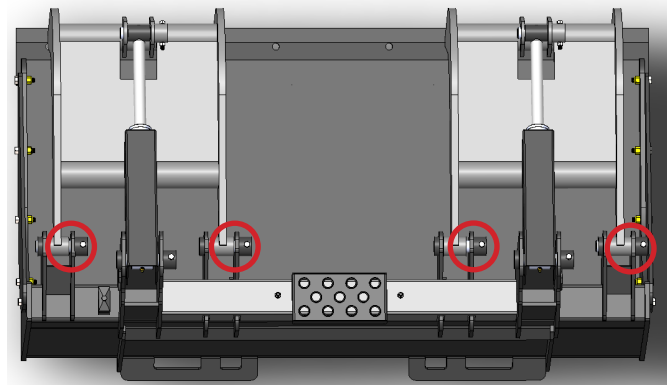

Figure 1
The HDX Grapple Buckets have four (4) grease points. These points are circled in Figure 1.